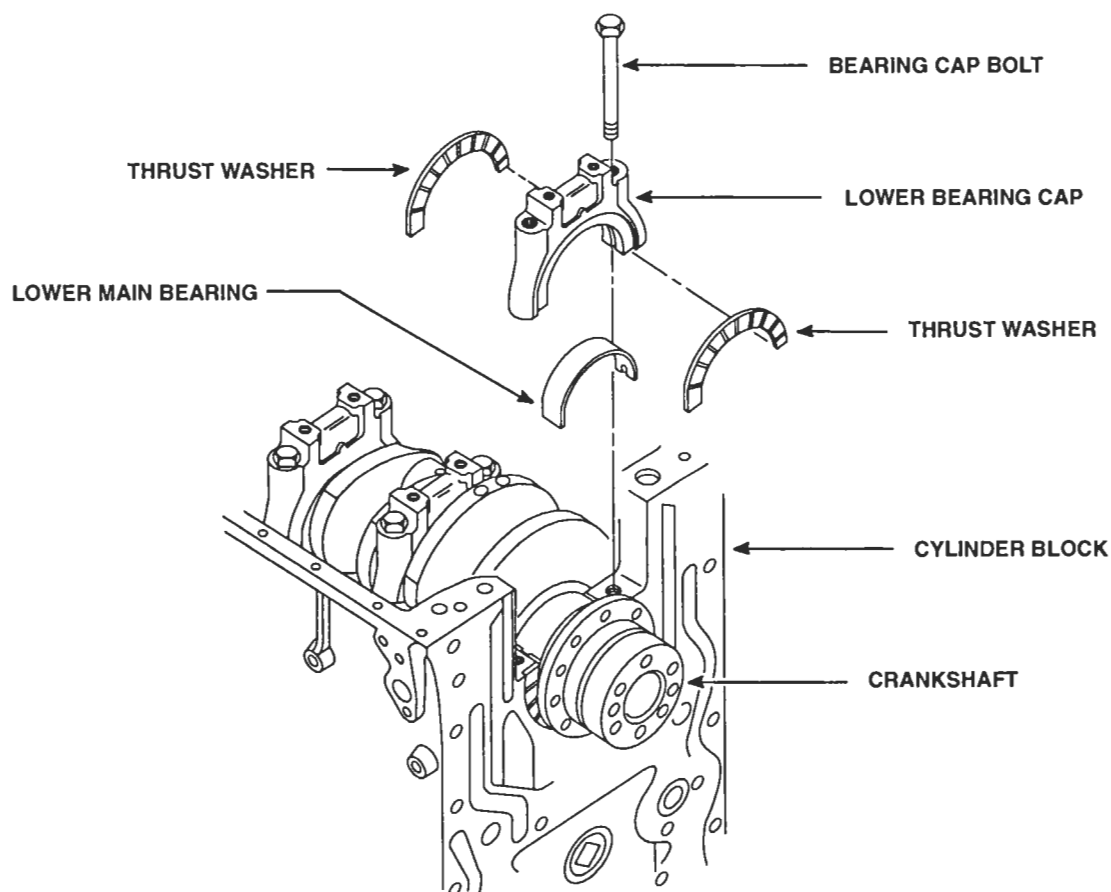

Figure 6. Crankshaft Thrust Washers in Place
2. Install the lower main bearing shell so that the tang on the bearing fits into the groove in the bearing cap (Figure 6.)